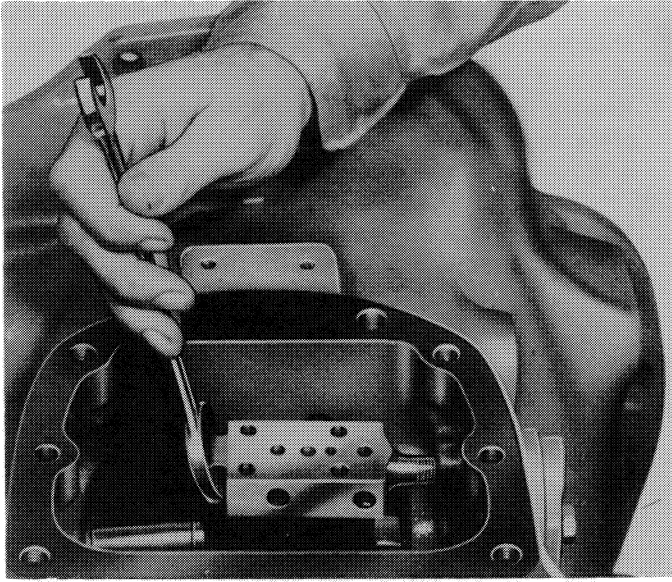

Figure 66
10. Remove the direct drive clutch valve body support by removing the fittings and using a 3/4" end wrench as shown in Figure 66.